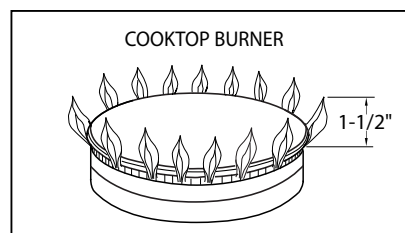

FIG. 18
*No air shutter adjustment is possible on the cooktop burners. Burner flames should be blue and stable with no yellow-tipping (some yellow-tipping is normal with LP gas), excessive noise, or lifting of flame from the burner (Fig. 18).*